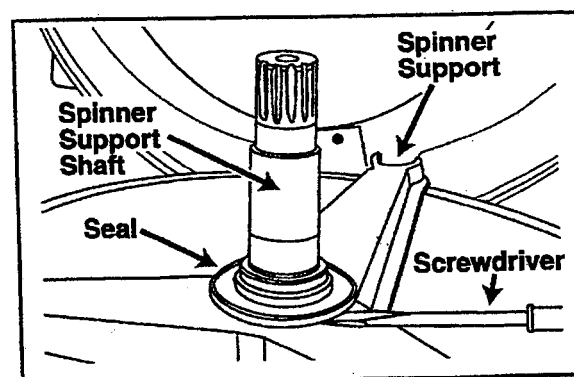

Figure 2-49
3. With a flat bladed screwdriver, pry the seal carefully off the tub support shaft (*Figure 2-49*).
5. Position the spacer, replacement rubber seal and steel seal washer into the outer tub bearing area (*Figure 2-49*).